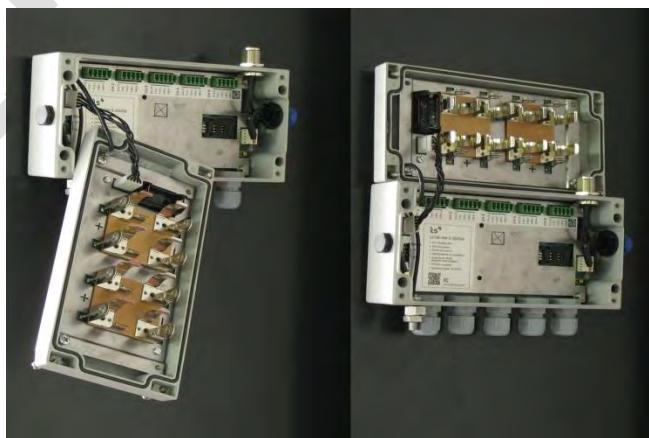

Figure 1: View of the recommended positions to open the datalogger.
- a. Open the datalogger (using allen wrench -2.5 mm-) following the recommended positions (Figure 1) in order to avoid damaging the lateral gore valve. The batteries are held on the cover, so be careful not to snap the cable between the cover and the main board.